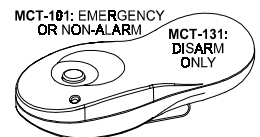

Figure 25. MCT-131 / 101
E. MCT-131 / 101* (Fig. 25): Single-button units. The MCT-131 (CodeSecure) and the MCT-101 (PowerCode) can be enrolled to perform functions as shown. Both units look alike.